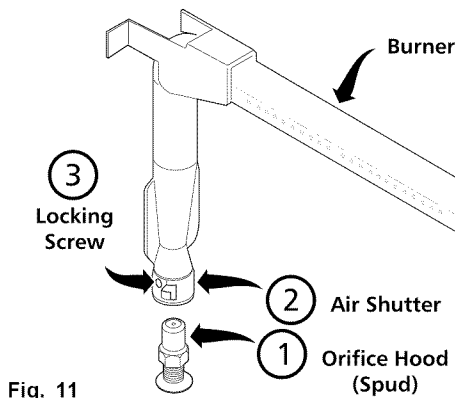

Fig. 11
- Turn off oven and allow to cool before adjusting air shutter. To adjust loosen lock-screw (See Fig. 11), reposition air shutter, and tighten lock-screw.